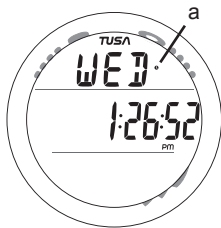

Fig. 9 - MAIN TIME
**MAIN TIME**, information displayed includes (Fig. 9):